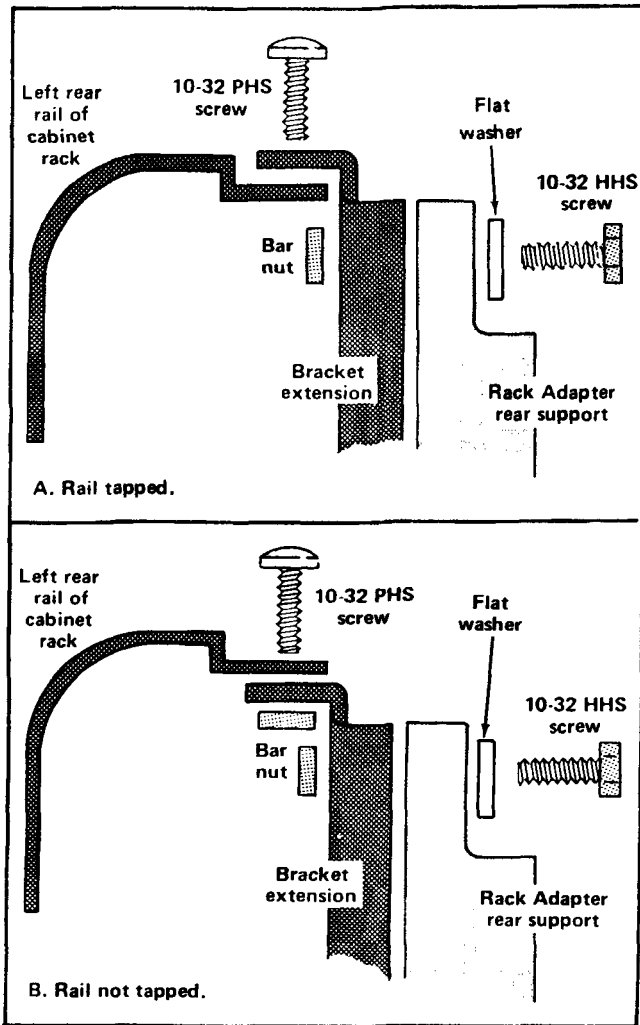

Fig. 6-4. Installing the rear bracket extensions.
6. Using the Rack Adapter Assembly and the rear rack rails as guides, loosely secure the bracket extensions to the rear supports of the Rack Adapter Assembly approximately in their final permanent positions. Refer to Fig. 6-4.
7. Secure the bracket extensions to the rear rails of the rack. Refer to Fig. 6-4 for hardware and positioning information.